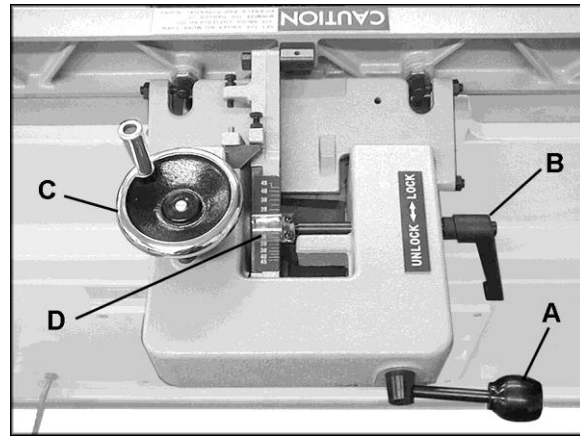
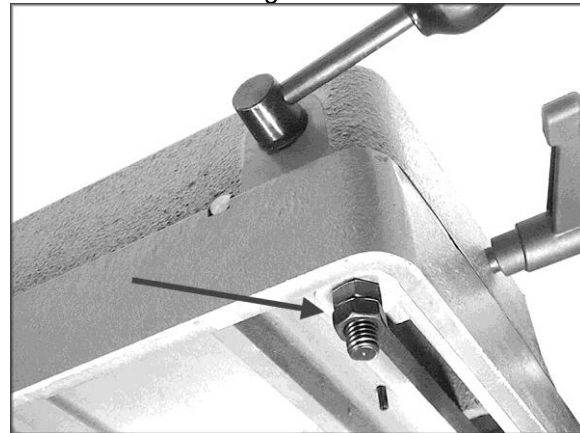

Figure 14
Figure 15
1. Loosen locking handle (A, Figure 14).
2. Push the entire fence assembly to the desired position, and tighten locking handle (A, Figure 14). A plastic buffer piece is mounted to the front of the fence to prevent scratching the table when the fence is moved.
NOTE: If the lock handle (A, Figure 14) is in an inconvenient position, it can be adjusted. Loosen the two hex nuts underneath the slide bracket (Figure 15). Flip the handle to the desired position and re-tighten the hex nuts. Do not over-tighten the hex nuts, as this can make the fence difficult to move on the slide bracket.
1. Loosen locking handle (B, Figure 14).
2. Rotate handwheel (C, Figure 14) until the desired angle is indicated on the scale (D, Figure 14). Or you can place your beveled workpiece on the table and against the fence, and rotate the handwheel (C, Figure 14) until the angle of the fence matches the bevel of your workpiece.
3. Tighten locking handle (B, Figure 14).
To remove the fence assembly from the machine, remove the two hex nuts and one flat washer that secure it to the slide bracket (see Figure 15). Lift the fence straight up and off the Jointer.